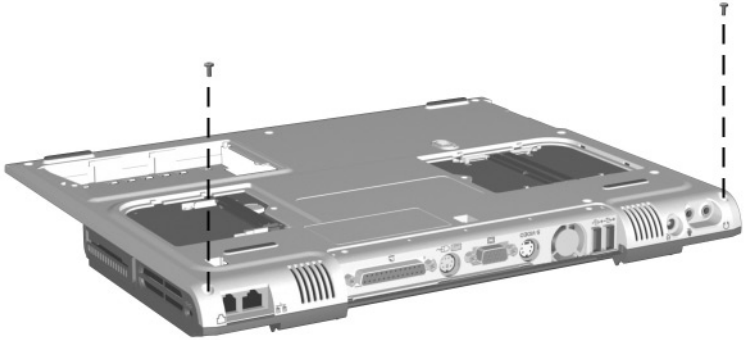

Figure 5-38. Removing the Top Cover Screws
3. Remove the two TM2.5 × 8.0 screws that secure the top cover to the base enclosure (Figure 5-38).